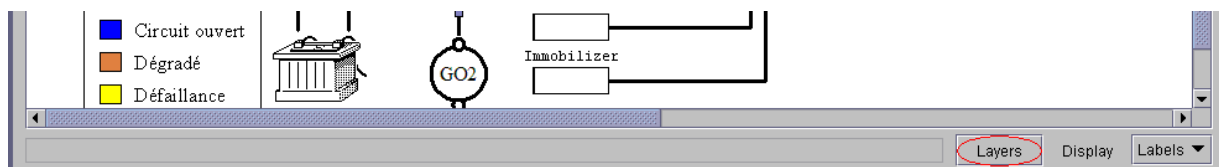
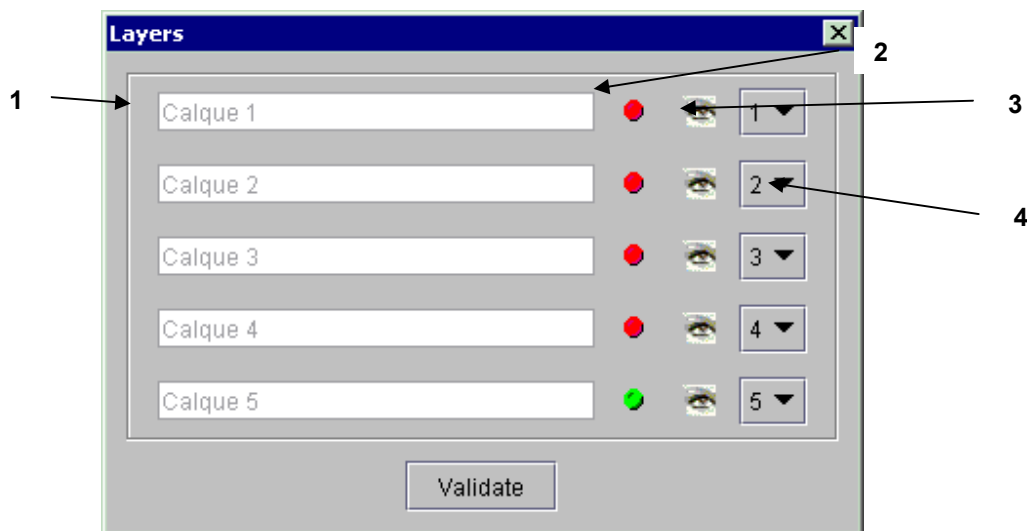

Figure 143 : Layers edition
Figure 144 : Window of layers definition
- ◆ Click on **Layers** button (Figure 143) to display Definition of display Layers window (Figure 144).
With the window of layer definition (Figure 144), display priority order can be defined for the 5 layers in which the user has put equipments, components or links.